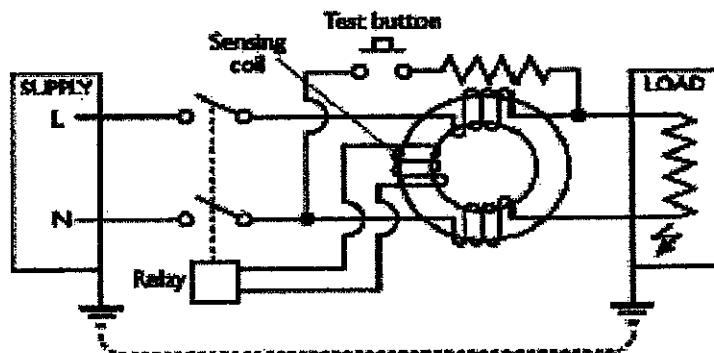

Figure A1(c): Schematic Diagram of Residual Current Device
- CLO2 (c) By referring to Figure A1(c), interpret the operation of the device.